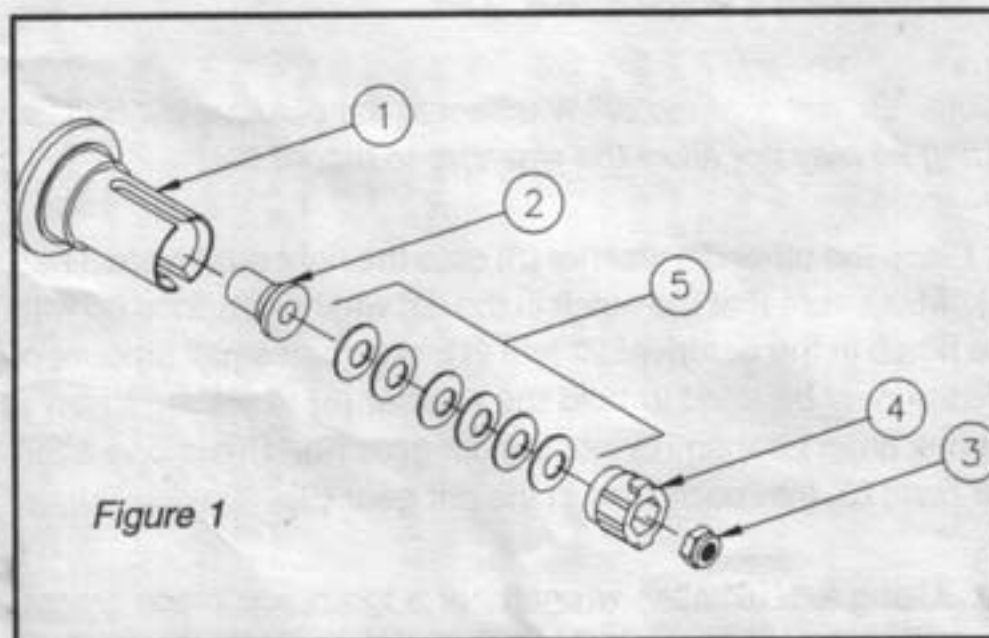

Figure 1
5. Locate one of the outdrive/diff halves (1). Insert the diff tube (2) from the outside of the outdrive/diff half, small side first. Be sure that the diff tube (2) is inserted all the way into the
outdrive/diff half (1), and is straight. The handle side of an X-Acto knife or the top of a pen can be used to push it into place. Fig. 1
6. Insert the diff nut (3) into the diff nut carrier (4). Be sure and push the nut (3) all the way into the carrier (4). Fig. 1
7. Locate the six beveled washers (5). These washers need to be inserted into the outdrive/diff half (1) from the outside. To do this use the 4-40 x 1 3/4" screw (6) (\* Note: this screw is not used in this location, it is only used to aid in the assembly of this step). Place the six beveled washers (5) onto the screw so that they **open away** from the head of the screw. (\* All 6 washers are stacked in the same direction) While holding the outdrive/diff half (1) so that the diff tube (2) is pointing down, insert the screw and washers into the outside of the outdrive/diff half (1) and remove the screw (6). With the beveled washers (5) in place, insert the diff nut carrier (4) into the outdrive/diff half (1) and push it all the way in. Be sure that the diff nut (3) is to the outside. The diff nut carrier (4) should now hold the beveled washers (5) in place. This assembly will be referred to as the right outdrive/diff half. Set this assembly aside for a moment. Fig. 1